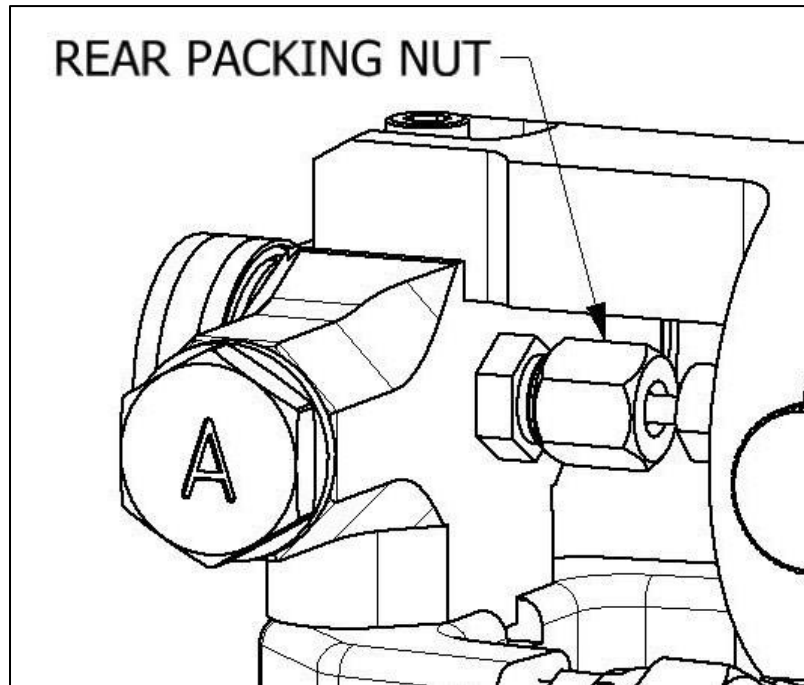

Figure 13: Rear Packing Nut
1. **Rear Packing Nut** (see Figure 13) should be initially installed finger-tight, then turned with a ½” wrench one half turn.